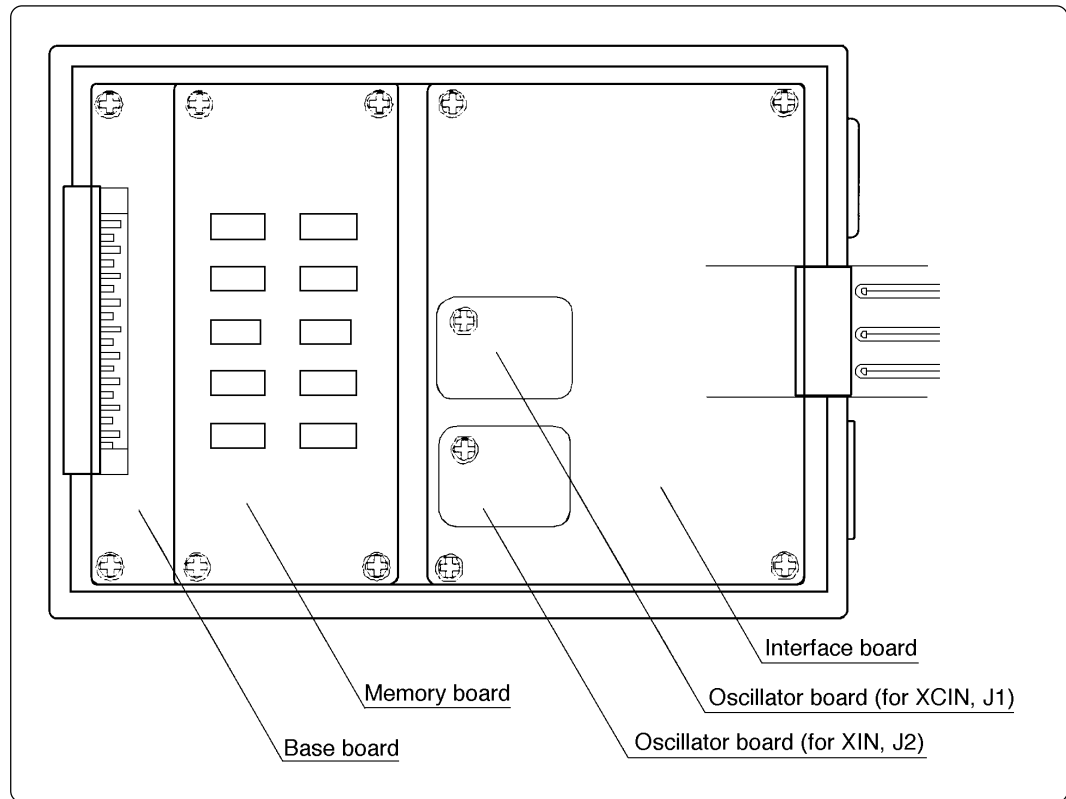
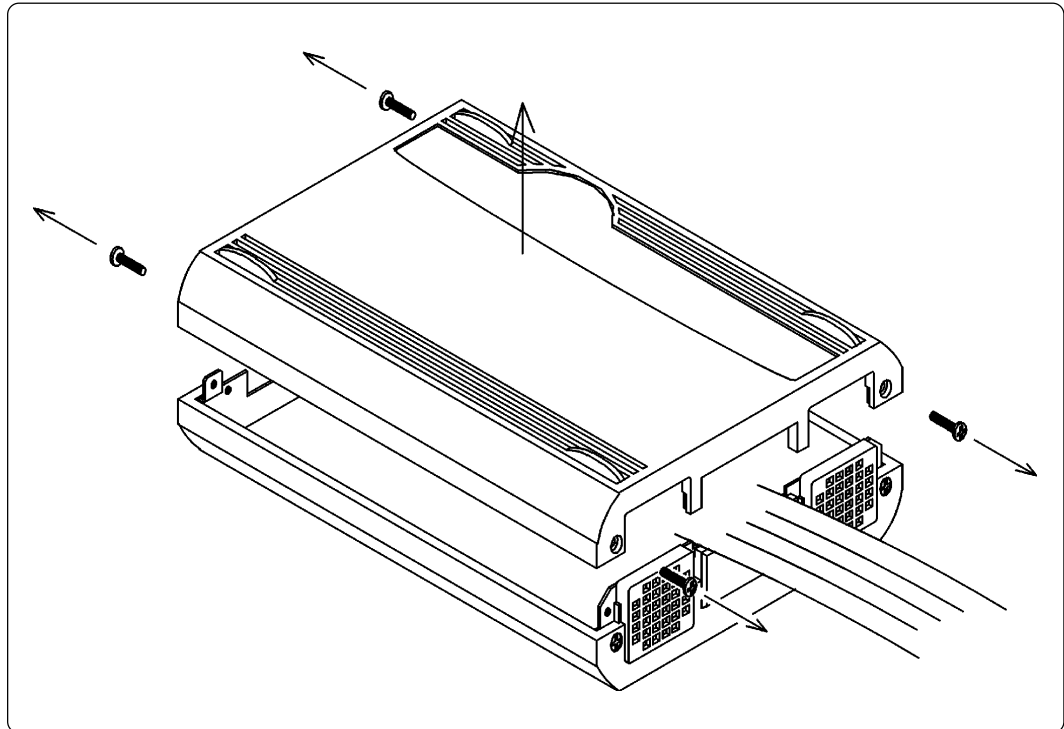

Figure 2.2 Internal view of the emulation pod
Figure 3.5 Removing the upper cover
Figures 3.5 and 3.6 show how to replace the oscillator circuit board. For the location of the oscillator circuit board, see Figure 2.2.
- (1) Remove the four screws of both sides of this product and lift off the upper cover. (see Figure 3.5)
- (2) Unscrew the screw connecting the oscillator board.
- (3) Lift off the oscillator board.
- (4) Insert the connector J1 of the oscillator board to the connector J1 (or J2) of the interface board M37900T-PRT.
- (5) Fix the oscillator circuit board to the M37900T-PRT board with the screw.
- (6) Replace the upper cover and secure the four screws.